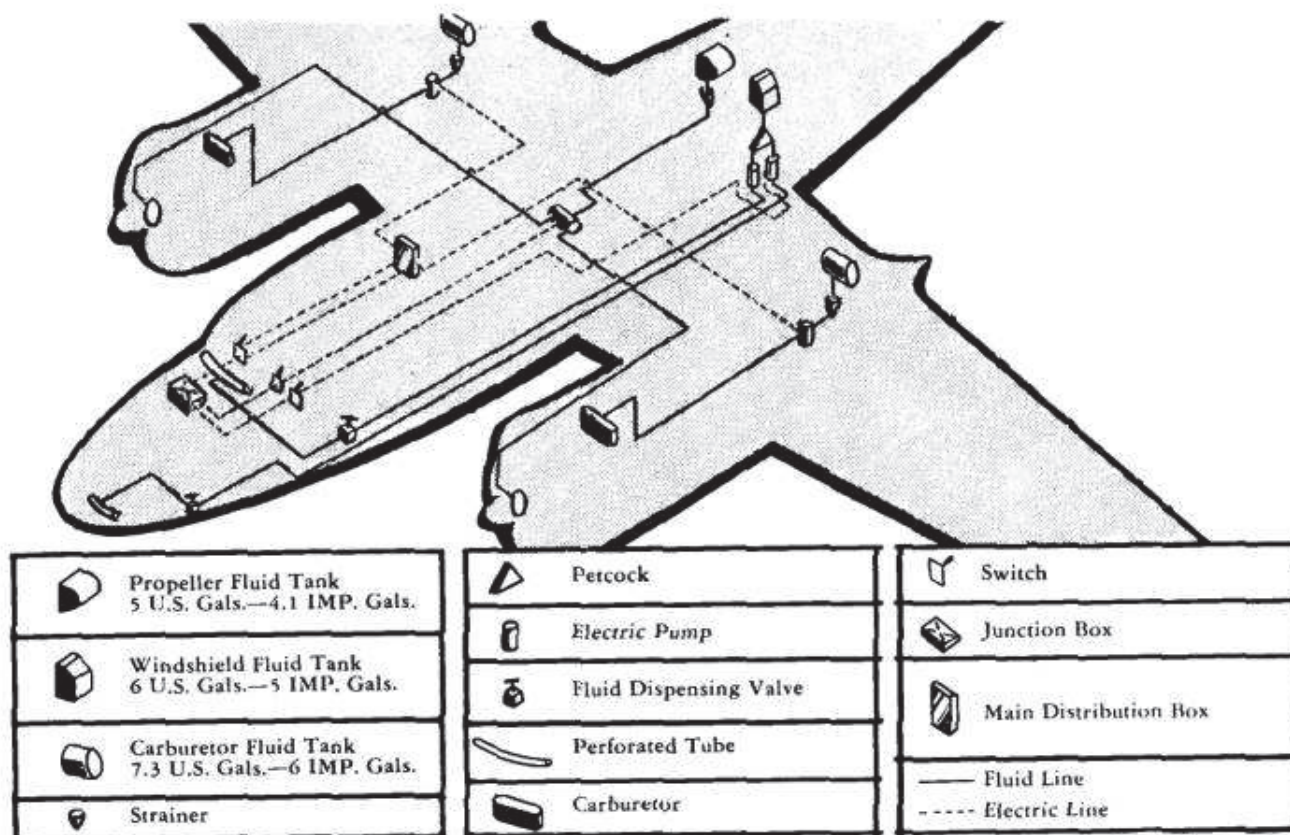

Figure 29 — Anti-Icing System Diagram
*n.* ANTI-ICING SYSTEM. (See figure 29.)
(1) DESCRIPTION.—Anti-icing fluid is delivered to the propellers, carburetors, and to the pilot's and bombardier's windshields by three separate systems. In some airplanes, there is no fluid windshield anti-icing nor fluid carburetor anti-icing.